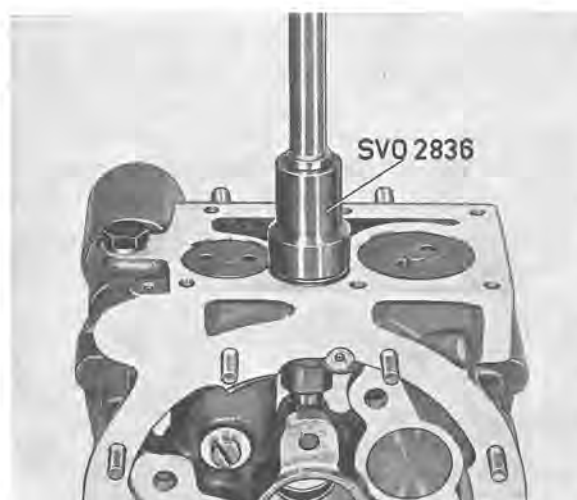

Fig. 4-46. Removing plug
2. Remove the plug under the relief valve with tool 2836, see Fig. 4-46. Pull out the large piston